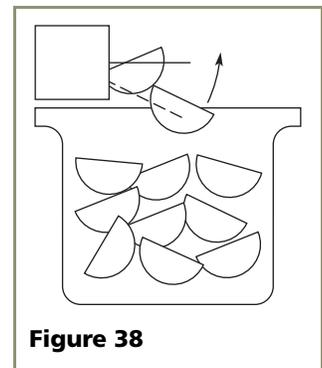

Figure 38
3. The ice maker will continue to produce until the bin is full. You may interrupt production by raising the bin arm into an upright and locked position (see **Figure 38**). While the bin arm is locked, the unit will maintain temperature for ice storage.